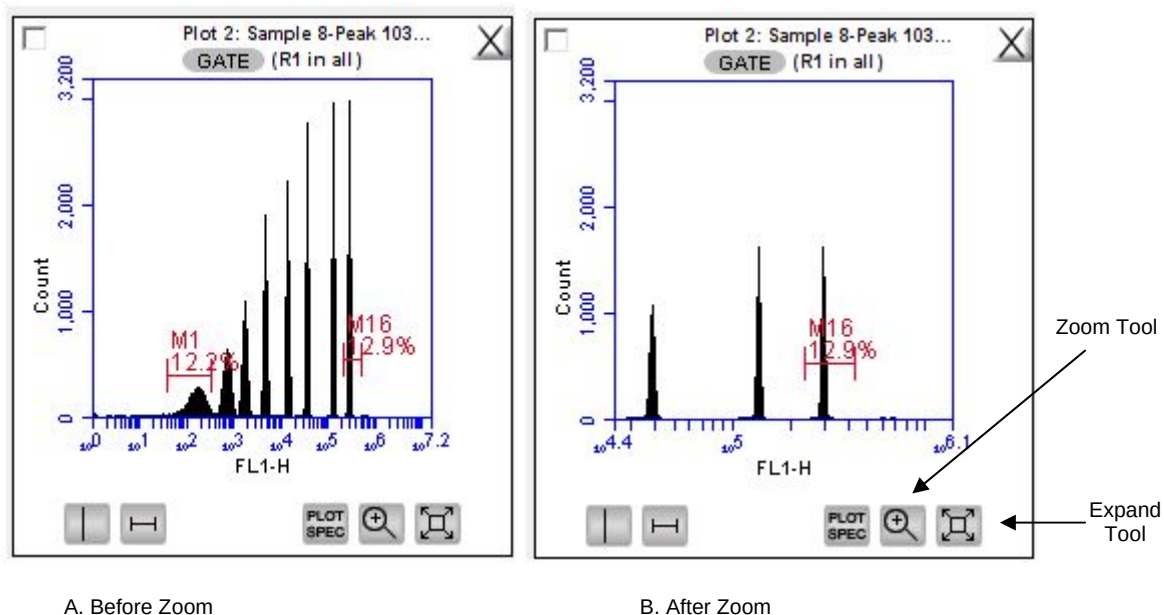

Figure 1-5 Location of Zoom Tool and Expand Tool, and effect of Zoom
3. View the next 3 plots - FL1-H, FL2-H, and FL3-H. They should be gated on the scatter region, R1. The phrase "**R1 in all**" should be visible next to the gray "**GATE**" button at the top of each of these 3 fluorescence plots (Figure 1-5). If not, click the **GATE** button and select the option "**R1 on all events**" from the pop-up gating list.